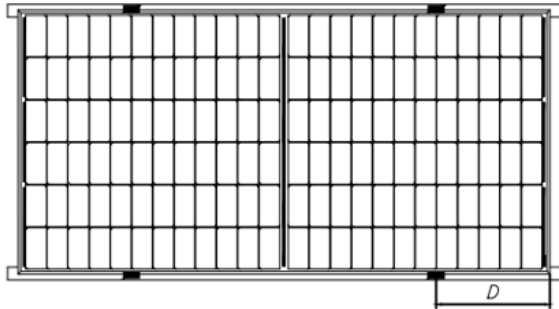
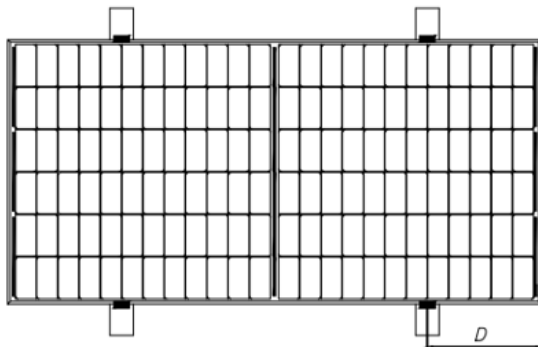
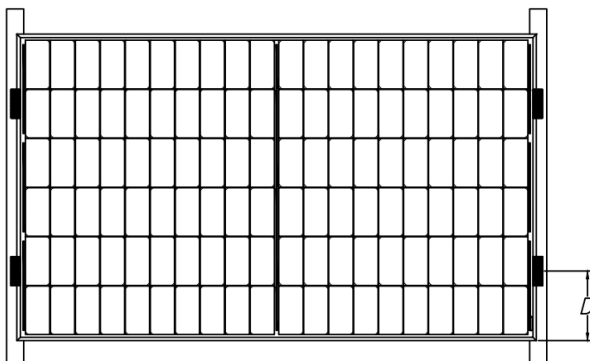
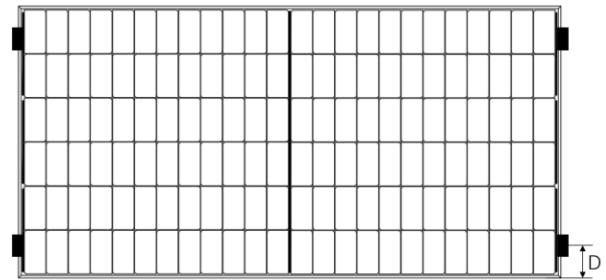

Fig.3 Rails overlapping the long-side frame
Fig. 4 Rails vertical to the long-side frame
Fig. 5 Rails overlapping the short-side frame
Fig. 6 Four clamp mounting on short side of frame
When PV modules are installed, each PV module must be fixed with at least 4 presses, as shown in Figures 3 、 4、 5、 6.
- ⑩ For the mounting shown in Figure 3, the overlap between the C surface of the module and the rail should be $\geq 25\text{mm}$. Astronergy's limited warranty will be void if improper clamps or improper installation is used.
| Module type | Module size L*W*H (mm) | Refer to Figure 3 for installation method | Refer to Figure 4 for installation method | Refer to Figure 5 for installation method | Refer to Figure 6 for installation method |